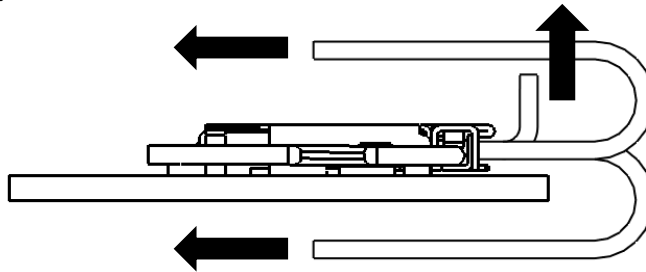

Fig. 29
- Continuous force of the direction shown in black arrow in Fig. 29 can damage connectors or cause the coming off from receptacle connector. Please be careful NOT to apply such force.